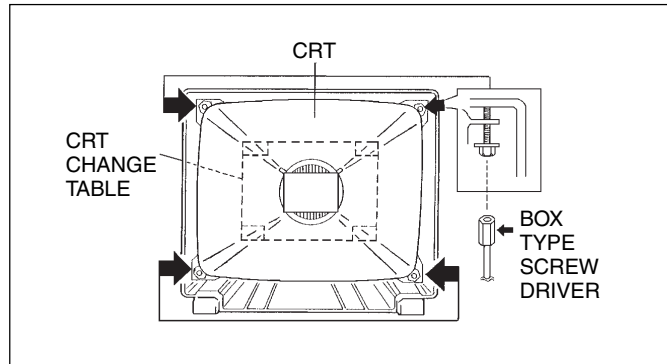

Fig. 4
- 2. While keeping the surface of CRT down, mount the TV set on the CRT change table balanced will as shown in Fig. 4.
- 3. Remove 4 screws marked by arrows with a box type screwdriver as shown in Fig. 4.